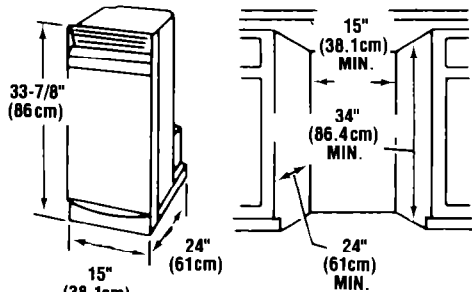

FIGURE 3
3. The compactor's overall dimensions are: Height 33-7/8" (86 cm) (min.), Depth 24" (61cm), Width 15" (38.1cm). Select a cabinet opening to fit. See Figure 3.